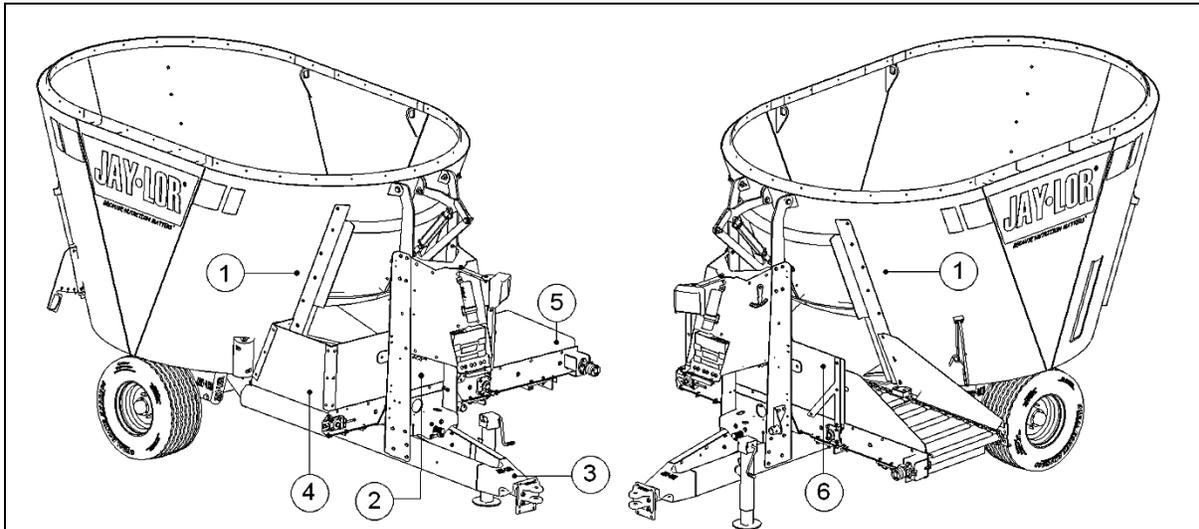

Figure 3 - Single Auger Standard Safety Sign Locations
*Not pictured in **Figure 3**. Located near the ladder of low profile mixers